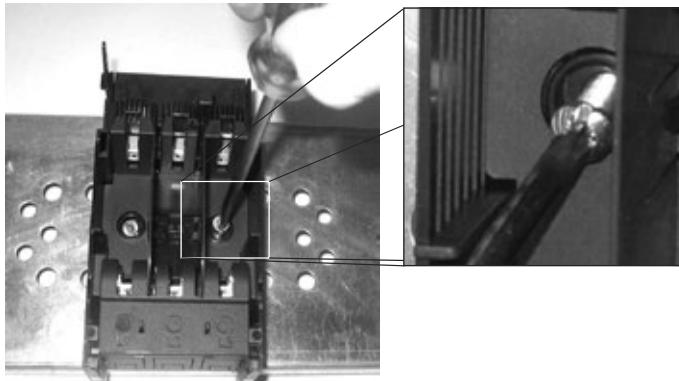

Figure 8
- Fix the disconnector to a mounting plate with M6 screws (Figure 8) until you have a good fixation on the panel;